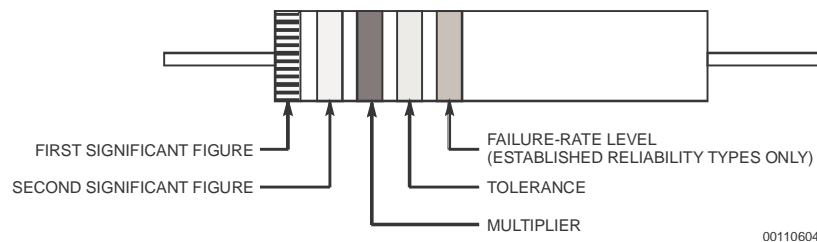

Figure 1 Color Coding for Composition Type Resistors
- d. Method II marking (color coding). Composition and film type resistors may utilize color coding for identification. These resistors use color bands as shown in Figure 1.